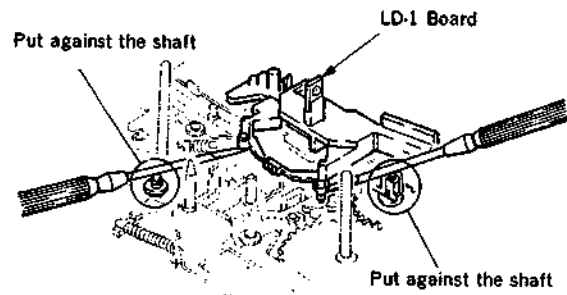

Fig. 1
- (1) Remove the Cassette-up Compartment Assembly referring to Section 2-16.
- (2) Disconnect the connector (CN301) on the RS-31 Board.
- (3) Remove the T Reel Table Assembly referring to Section 7-2-14.
- (4) Remove the stopper washer and remove the Drive Gear B Assembly.
- (5) Remove the LD-1 Board. (fig. 1)
- (6) Remove the Lock Slider M Assembly referring to Removal Steps (3) to (5) of Section 7-2-20.
- (7) Remove the tension spring and remove the B Release Arm Assembly.
- (8) Check that the M-mode is put into **EJECT** mode.
- (9) Remove the stopper washer and remove the Mode Output Gear.
- (10) Release the two claws of the Control Motor Cover and remove the Push Switch.
- (11) Disconnect the connector (6P) on the M-switch Assembly.
- (12) Remove the two fixing screws and remove the Control Motor Cover L.
- (13) Remove the fixing screw and while lifting up the M-switch Assembly, push the T.S Release Arm in the direction of the arrow A. Then push the T Main Brake Assembly in the direction of the arrow B and remove the M-switch Assembly.